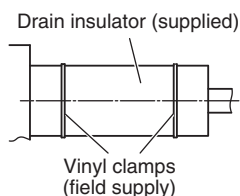

Fig. 3-9
- After connecting the drain pipe securely, wrap the supplied packing and drain pipe insulator around the pipe, then secure it with the vinyl clamps. (Fig. 3-9)